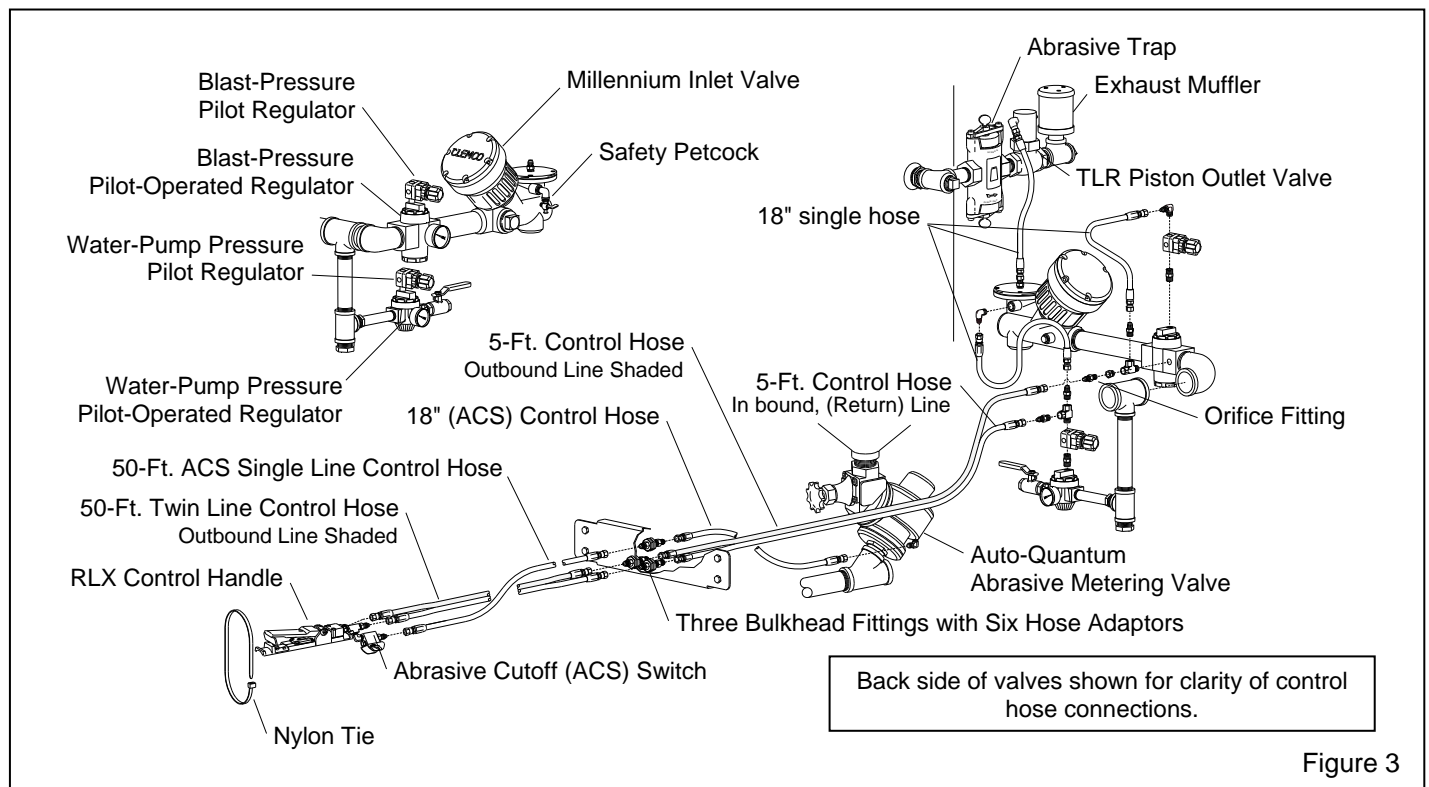

Figure 3
1.6.2 Remote controls with abrasive cut-off (ACS) Components are shown in Figure 3
1.6.2.3 The components of the remote control system are shown in Figure 3. They include the Millennium inlet valve, piston-style outlet valve, RLX control handle, 50-ft. twinline and single-line control hoses and all interconnecting hoses and fittings.
1.6.2.4 Clemco remote controls operate pneumatically on return air. Control air travels from the orifice fitting located on the inlet end of the blast-pressure regulator, down the outbound line (Shown shaded in Figure 3) and escapes through the opening located under the RLX control handle lever. The normally-closed inlet valve remains closed, and the normally-open outlet valve remains open. As long as air escapes through the handle's opening, the remote control system remains dormant.